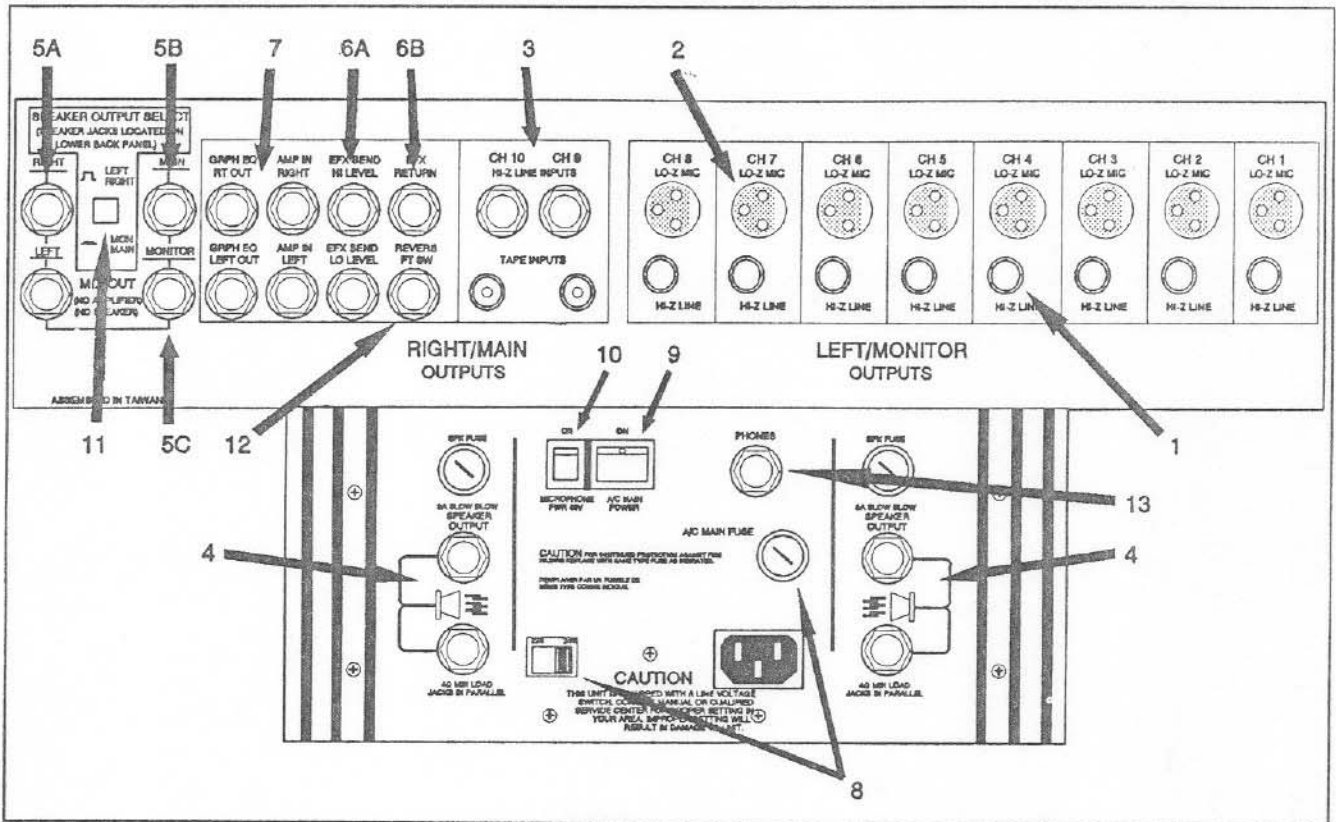

Figure 2. Rear Panel Diagram
4.3 Rear Panel Connections (Refer to Figure 2.)